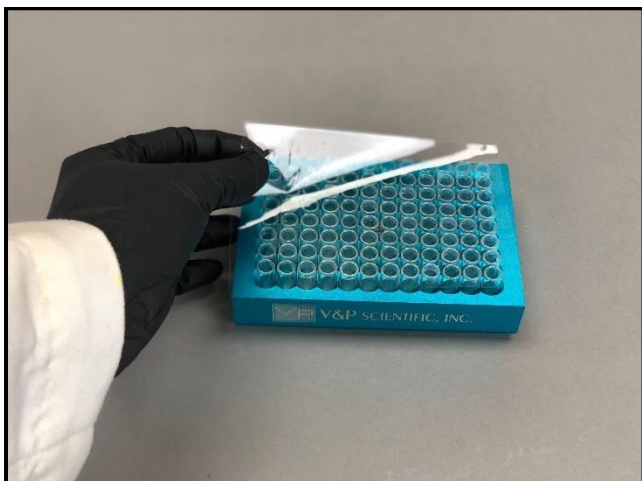

Figure 3. Vial Block, vials and PFA film
1. Once all glass shell vials are charged with reactants, solvent and stir elements, place one **VP 416-96-FILM** (clear PFA sheet) over the vials (see **Figure 3**) taking care to **align the center hole of the film and the center hole of the reaction block**.